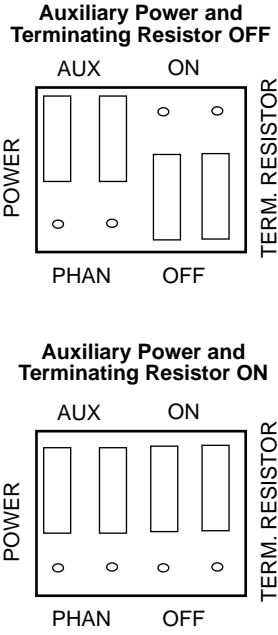

FIGURE 7-5. Settings for a 5ESS Connection
1. Locate the terminating resistor jumpers by sliding the cover downward (covering the Line jack and Adjunct jack) until the power and terminating resistor jumpers are visible. Verify the jumper settings for your given configuration. (See Figure 7-5.)
- 2. Locate the Phantom/Auxiliary power jumpers. Verify the power jumper settings for your given configuration. See Figure 7-5.